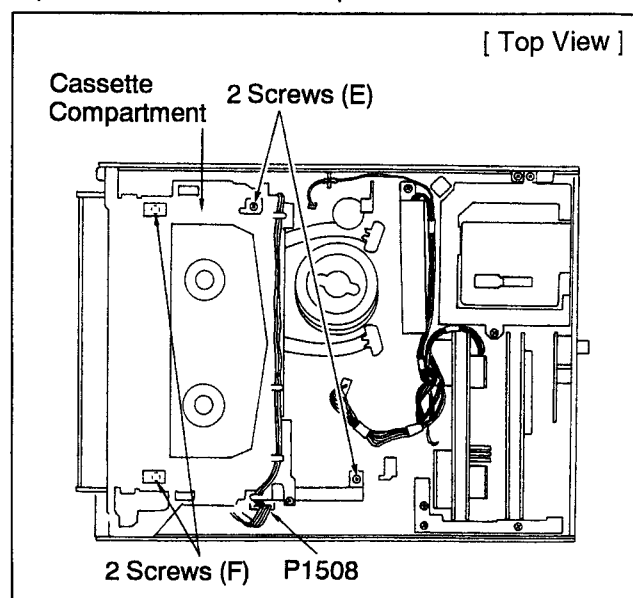

Figure D6
1. Unscrew 2 screws (E) and slide the Cassette Holder Unit appearing 2 screws (F) and then unscrew 2 screws (F) (Figure D6.).